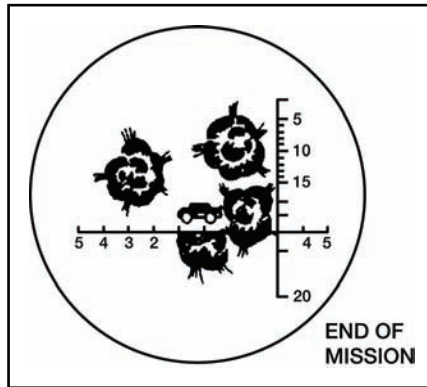

Figure 061-283-6003-8. Fire-for-effect pattern
5. Observe the results of fire for effect, transmit refinements (if necessary), and provide end of mission and surveillance (figure 061-283-6003-9).